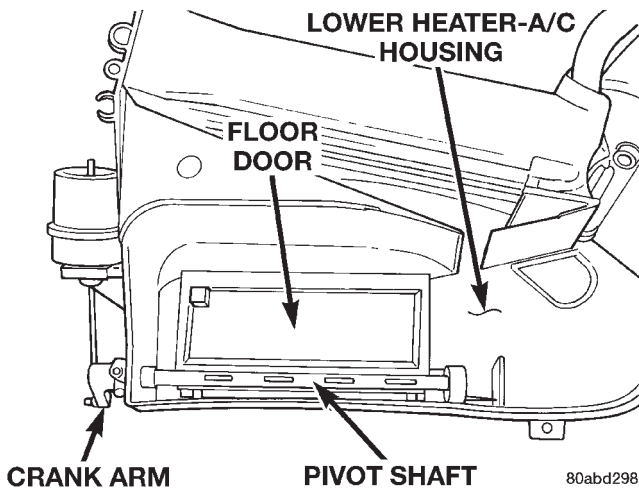

Fig. 54 Floor Door
(4) Reach inside the lower half of the heater-A/C housing and carefully flex the floor door (Fig. 54) enough so that the door pivot clears the pivot hole in the housing.